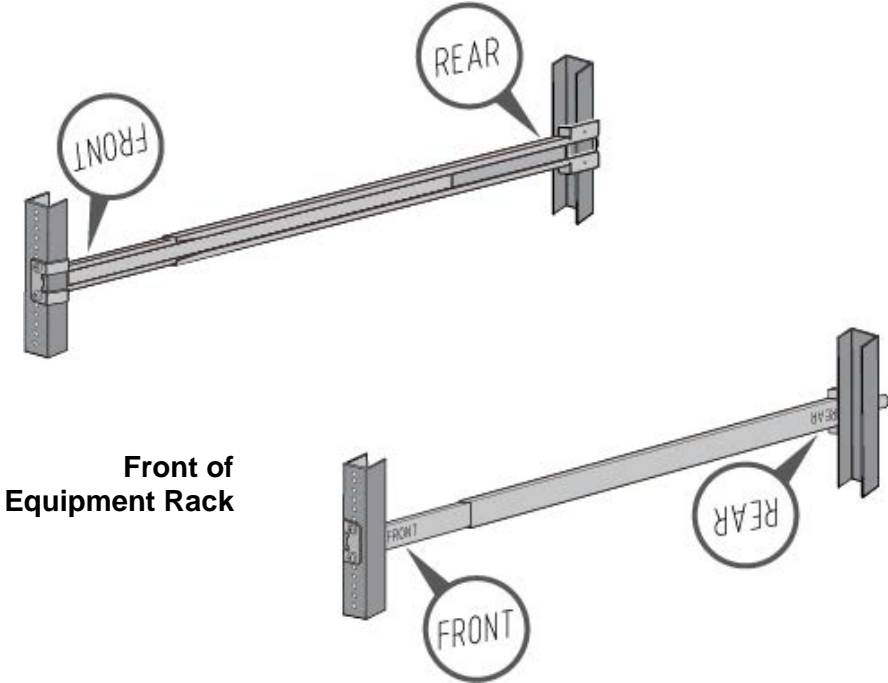

Figure 44. Installing the Outer Rails on the Equipment Rack
2. Attach the outer rails to the equipment rack using the supplied screws. Use four screws per rail. Refer to Figure 44 on page 151. Installing the switch can be easier if you leave the screws slightly loosened now and fully tightened them after the switch is installed.